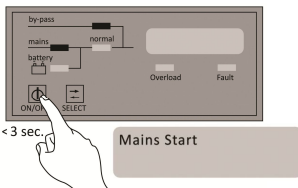
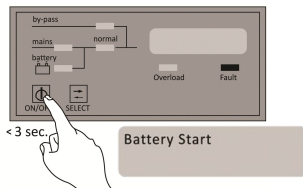

Figure 3.5
Figure 3.6
3. If the *mains* and the *by-pass* LEDs are on, press the *ON/OFF* button shortly and observe the '*Mains Start*' warning (Figure 3.5). If the *Fault* LED is on, press the *ON/OFF* button shortly to turn off the audible warning, press shortly again to see '*Battery Start*' warning (Figure 3.6) and wait until *normal* LED is on.